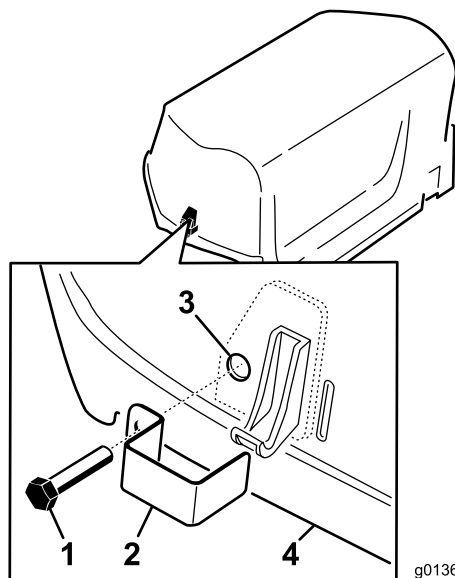

Figure 7
- Install a latch lock over the left and right side hood latches with a tap bolt (two total) (Figure 7).
- Using a pliers or adjustable wrench, thread an internal lock washer onto each bolt (1-2 threads) to secure bolt (Figure 7).